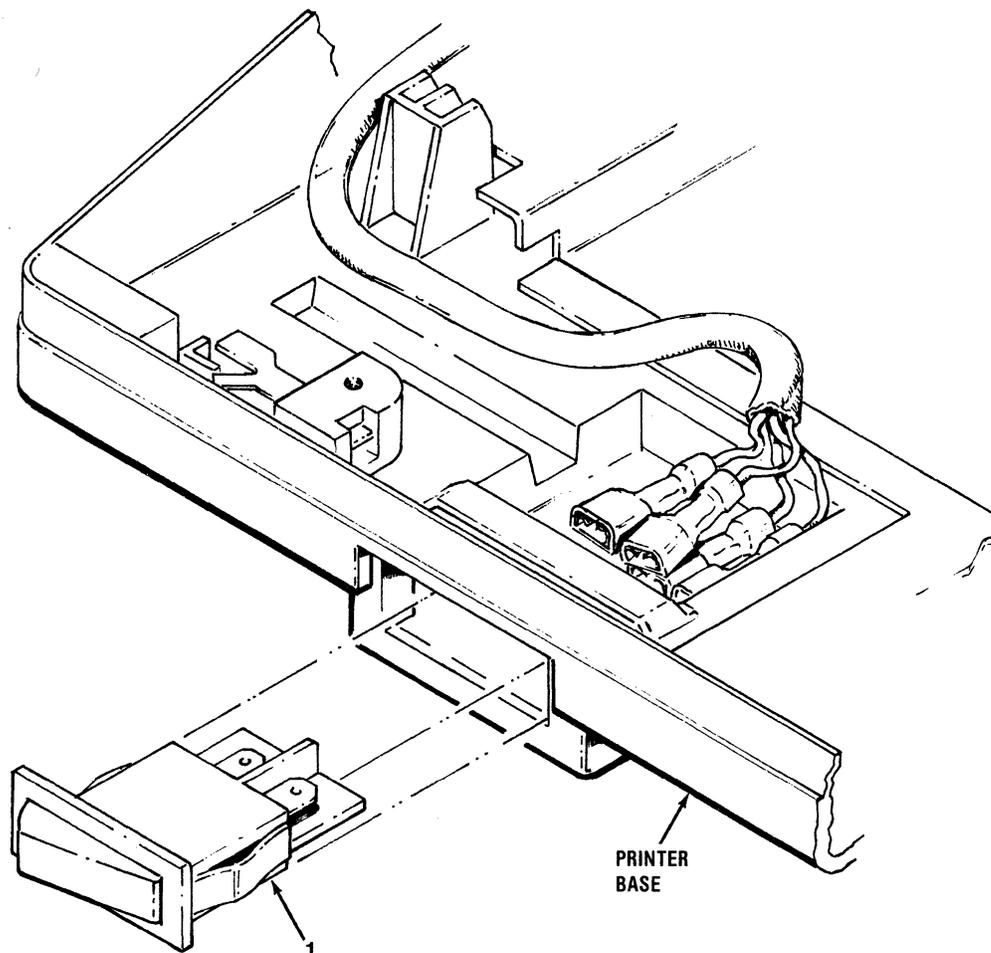

Figure 5-20 Removal/Replacement, On/Off Switch
The ON/OFF switch, item 1 of Figure 5-20, is
located on the left front of the printer base and no tools are required to remove the switch. To remove the ON/OFF switch, refer to Figure 5-20 and perform the following steps: